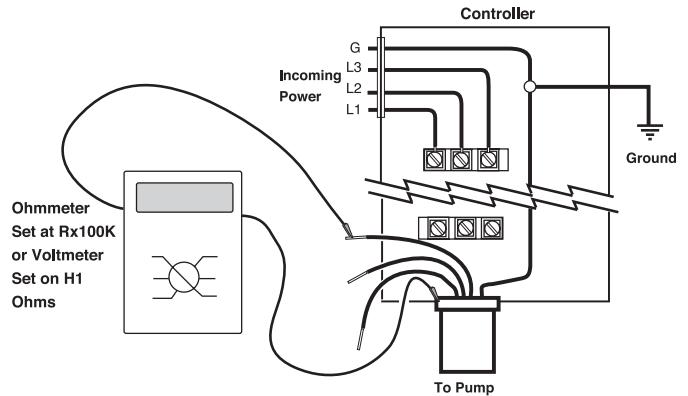

Figure 6: Ground Check
### Ground Check (Figure 6)
4. Bolt the Suction Bracket (Key No. 24) to the Assembly Fixture (See Figure 6 for Fixture specifications). Make sure that the Shaft Assembly is correctly aligned and is down solidly on the Fixture.